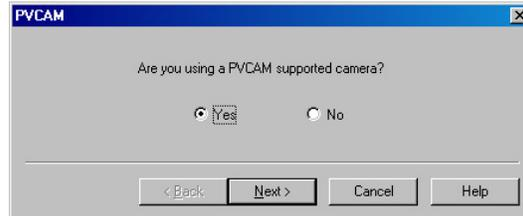

Figure 32. Hardware Wizard: PVCAM dialog
6. When the PVCAM dialog (Figure 32) is displayed, click in the **Yes** radio button, click on **Next** and continue through the Wizard. After the Wizard is finished, the **Controller/Camera** tab card will be displayed with the **Use PVCAM** checkbox selected. You should now be able to set up experiments and acquire data.